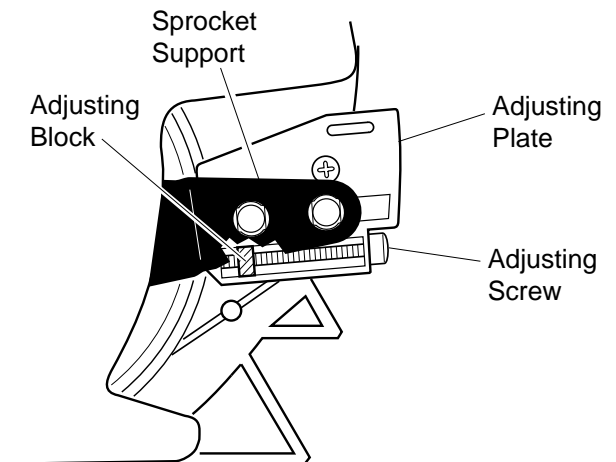

Figure 17 - Part Locations for Assembling Guide Bar
4. Turn adjusting screw counterclockwise (see Figure 17). Continue to turn adjusting screw until adjusting block is to rear of adjusting plate.
Note: Make sure cutting edges of chain are facing the right direction. Position chain so cutting edges on top of guide bar face guide bar nose (see Figure 17).